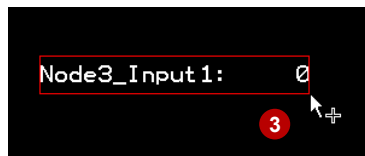

Figure 20
3. Click and drag the mouse on the display until the tag shows up (Figure 20).